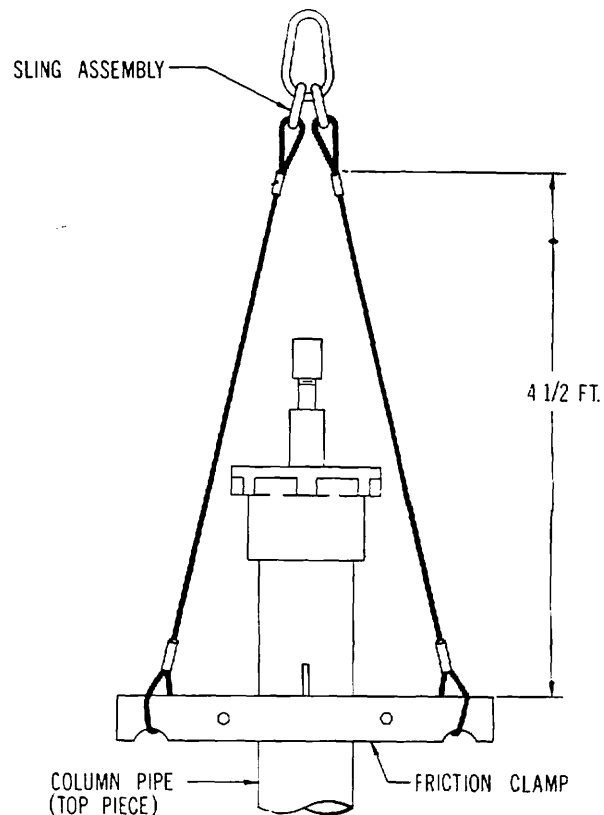

FIG. 2 - SLING AND CLAMP ARRANGEMENT
2. One cable sling and friction clamp assembly of sufficient strength to lift entire pump and long enough to clear a 3' shaft projection as shown in Fig. 2. This assembly is not required if a bailer, elevators, or other method is to be used to handle the column pipe sections.